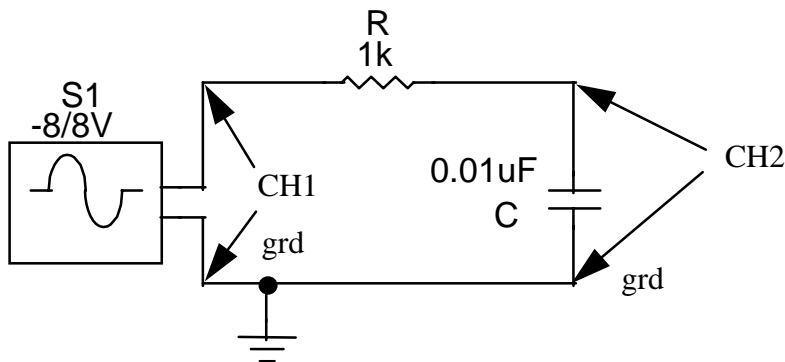

Figure 1. R-C Series Circuit Test Setup 1.
- 1.) Construct the series RC circuit show in Figure 1 below. Connect the circuit to a function generator set for sine wave output. Using a dual trace oscilloscope, set the output voltage of the function generator to an amplitude of 16 volts peak-to-peak (16 Vpp).